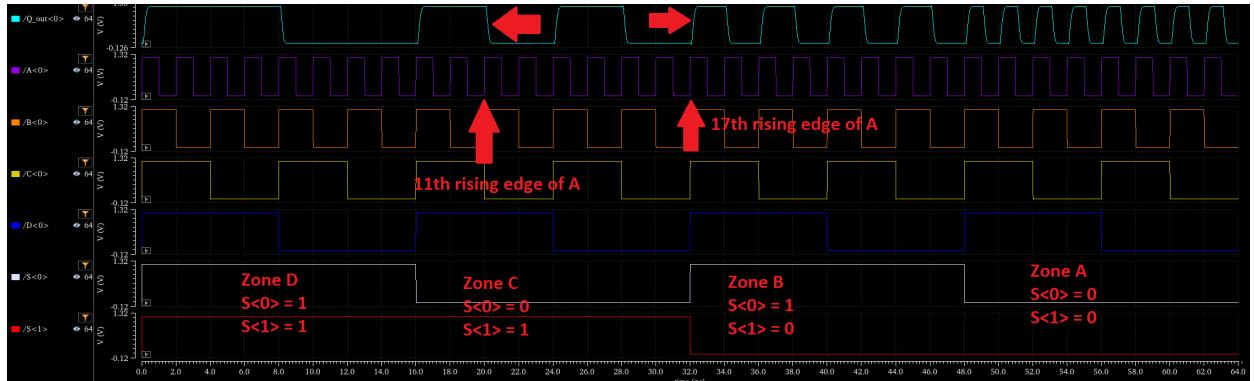

Figure 6 – Measure Different Delays
- ✓ Use the calculator to add four more delay expressions. You should have one rising edge and one falling edge delay for every pulse type (**A**, **B**, **C**, **D** - see Figure 6). After you run the simulation, depending on what edges you have chosen, you should have a result very similar (or same) as the following: